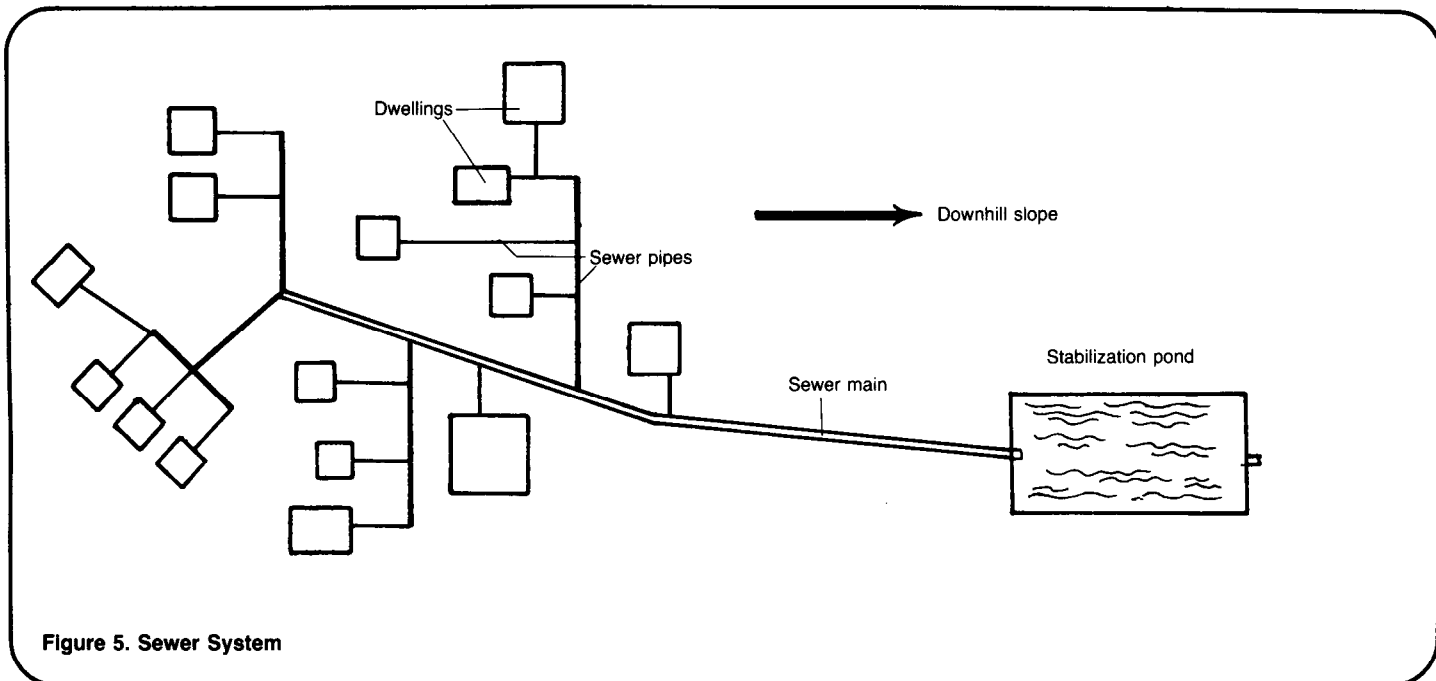

Figure 5. Sewer System
4. Sewer with Stabilization Pond. Sewers and stabilization ponds shown in Figure 5, are the most expensive sani-